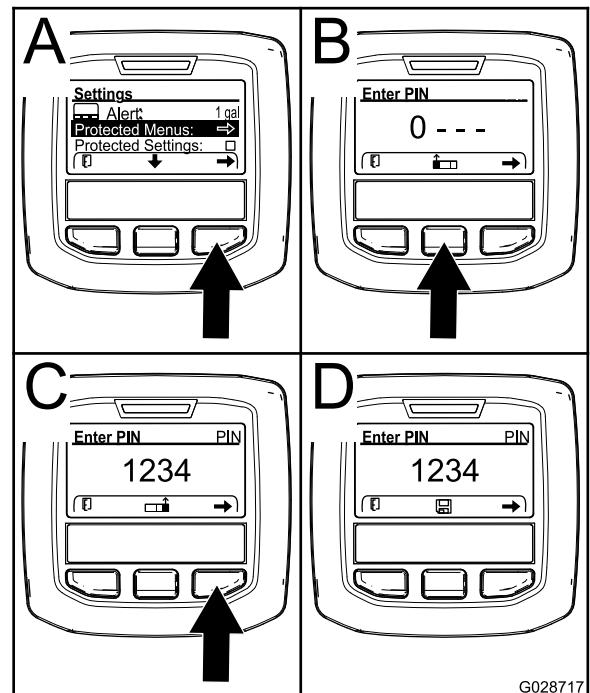

Figure 12
3. Press the right select button to select Protected Menus (A of Figure 12).
- Press the center selection button (B of Figure 12) to increase the numerical value (0 to 9).
- Press the right selection button (C of Figure 12) to move the cursor to the next numerical position to the right.
Note: The Save icon appears above the center selection button (D of Figure 12).